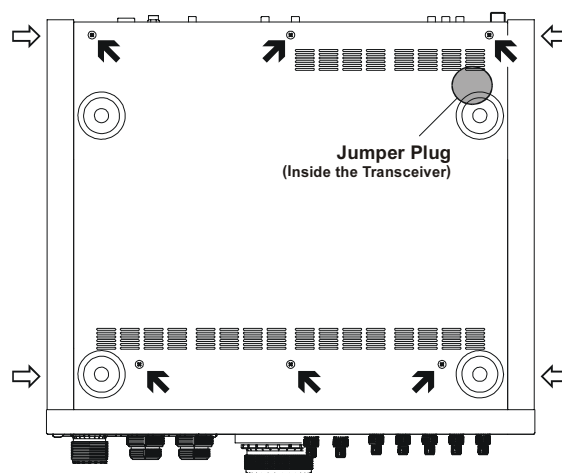

Figure 1
1. Turn the front panel **【POWER】** switch (#⑤) Off, then Turn the FPS-9000H's **【POWER】** switch Off.
3. Referring to Figure 1, remove the eight screws from the sides of the transceiver case.
4. Now remove the six screws shown in Figure 1 from the bottom case.